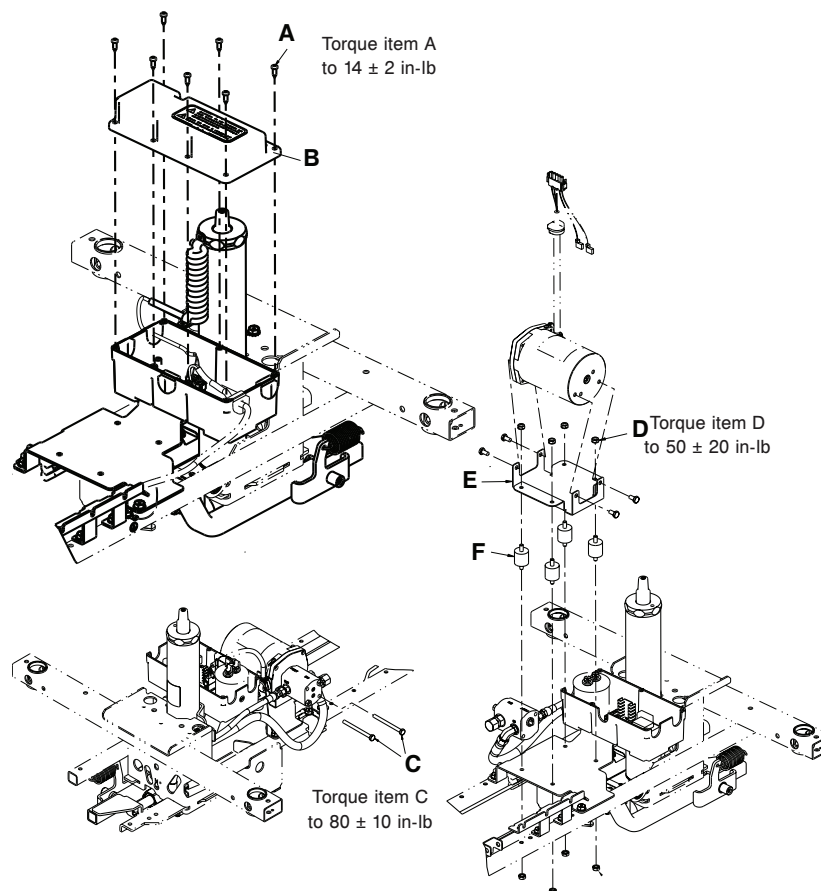

Figure 21 – Replace the pump motor
3. Using a #2 Phillips screwdriver, remove the seven pan head tapping screws (A) that secure the power board box cover (B) (Figure 21). Remove and save the power board box cover.